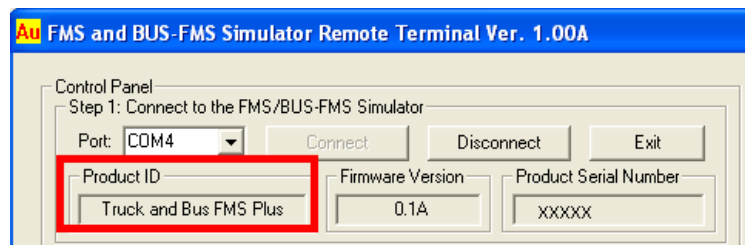

Figure B-6
7. When it is updated successfully, a beep will be heard. FMS About window will close automatically, and the Product ID (Edition of FMS Simulator) will update to the new edition (Truck and Bus FMS Plus Edition in this demonstration, as shown in Figure B-6).